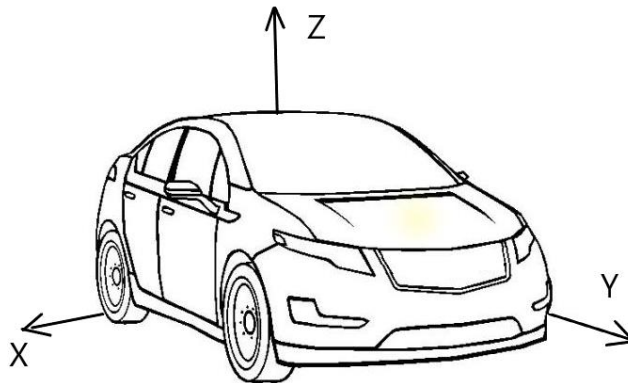

Figure 4-3 Carrier Coordinate System Schema
2. Refer to Figure 4-3 for the carrier coordinate system when installing the CLAP-B7. The Y direction is the carrier's moving direction, the X direction is the right-hand side direction perpendicular to the moving direction, and the XYZ axis is orthogonal, following the right-hand criterion. The XYZ axis of the CLAP-B7 board should coincide with the carrier coordinate system XYZ. Ensure that the CLAP-B7 is installed firmly and reliably during the operation. Its relative position with respect to the carrier and the phase center of the antenna is constant, and will not be affected by the carrier's dynamical change.